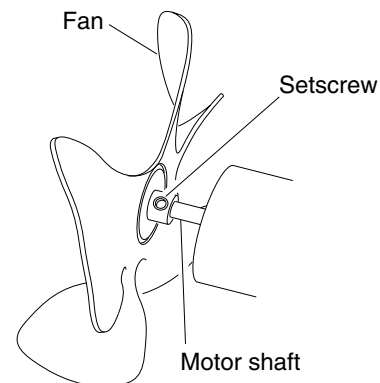

Figure 14 - Fan, Motor Shaft, and Set-screw Location
11. Use 1/8" Allen wrench to loosen set-screw which holds fan to motor shaft (see Figure 14).